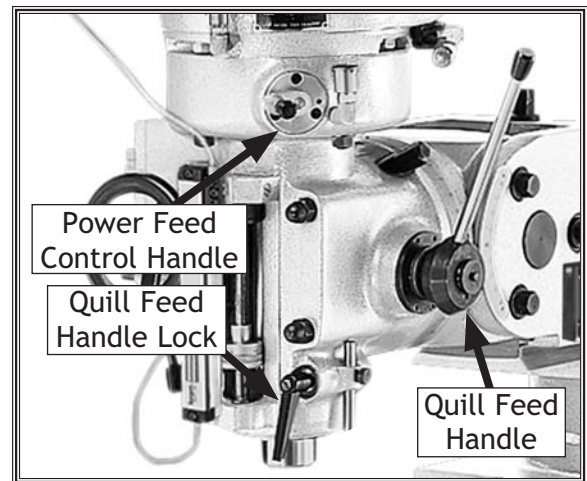

Figure 30. Quill feed handles.
The quill feed is controlled by the quill feed handle shown in **Figure 30**. The handle allows the mill to operate as a drill.
1. Pull the quill feed handle (**Figure 30**) forward to feed the quill down towards the workpiece. The quill feed handle is spring loaded to assist in returning the handle to the upmost vertical position.
2. Lock the quill in place at any depth by tightening the quill feed handle lock shown in **Figure 30**.
2. Make sure the quill is unlocked and move the power feed control handle to HAND (see **Figure 30**).